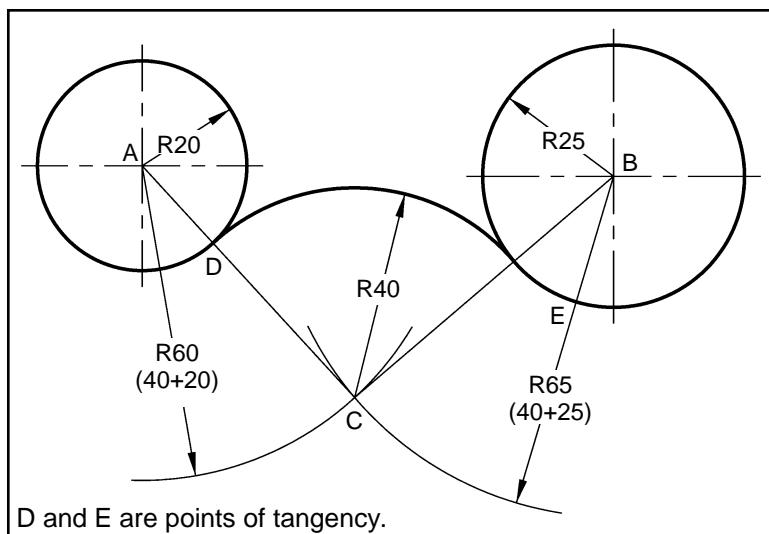

Figure 2.2
- 2.39.1 To draw an arc of given radius tangential to two given circles when the circles are outside the required arc: Figure 2.2.